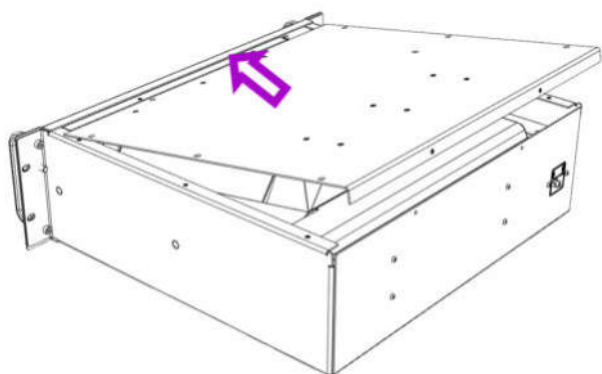

Fig. 22
3. Slide upper housing lid fully in direction of the device's front (Fig. 22). The lid is now sitting on the rear edges the mirror.